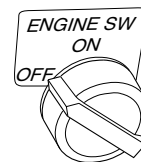

Figure 33 – Engine Switch In OFF Position, All Models Except 3WY46, 3WY45, and 3WY47
- Turn engine switch to the OFF position (See Figures 33 and 34).